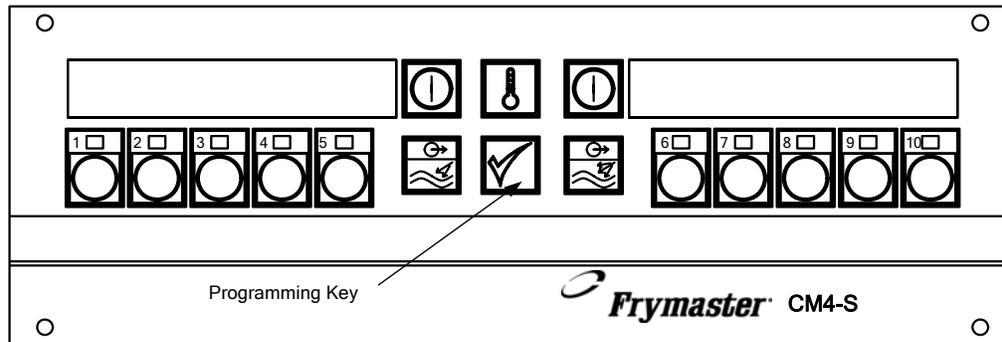

Figure 1: CM4-S Computer with tactile switches.
1. With the display showing OFF. Press the programming key. See Figure 1 above.
1. With the display showing OFF. Press the programming key. See Figure1.
3. Press the programming button. See Figure 1.